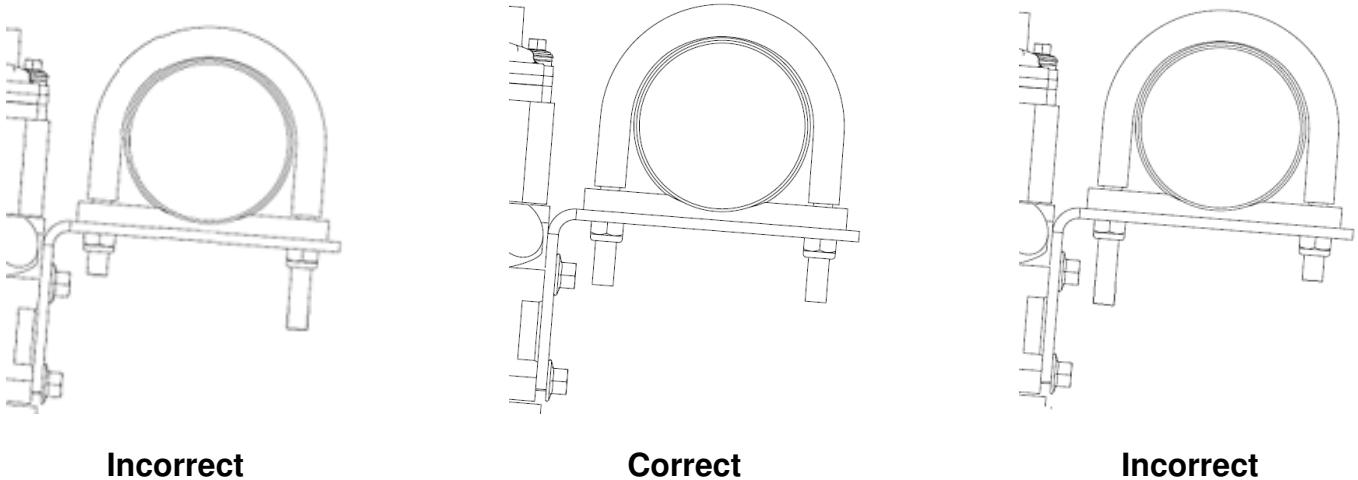

Figure 3: CAC Tube Support Clamp Installation
6. Install existing U-bolt clamp from Step 4 as shown in Figure 3. When tightening the existing U-bolt clamp nuts the nuts are to be tightened alternately so the same amount of threads show on both clamp studs when installation is complete. See Figure 3 for correct clamp nut alignment (stud length has been exaggerated and clamp bracket appearance might vary).